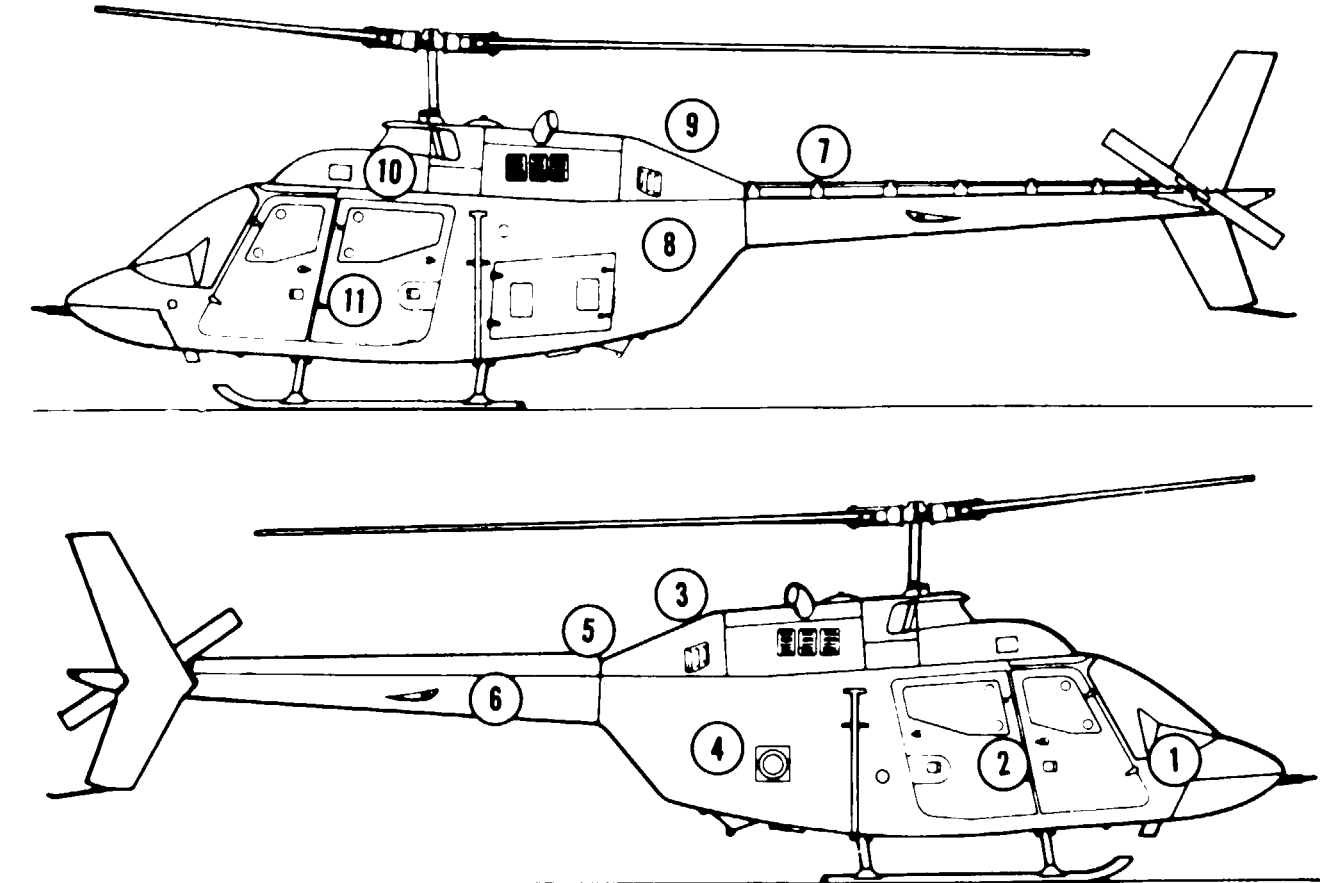

Figure 1. Inspection Areas.
a. The inspection requirements contained herein are stated in such a manner as to establish what and when certain equipment is to be inspected and what conditions are desired/undesired. Compliance with the provisions outlined herein is required in order to assure that proper servicing has been accomplished and latent defects are discovered and corrected before malfunctioning or serious trouble results. Inspection requirements are arranged, as nearly as possible, according to the manner in which they will be performed. The requirements are divided into groups under area headings (figure 1).
6. Inspection Areas. Inspection areas are shown in figure 1.